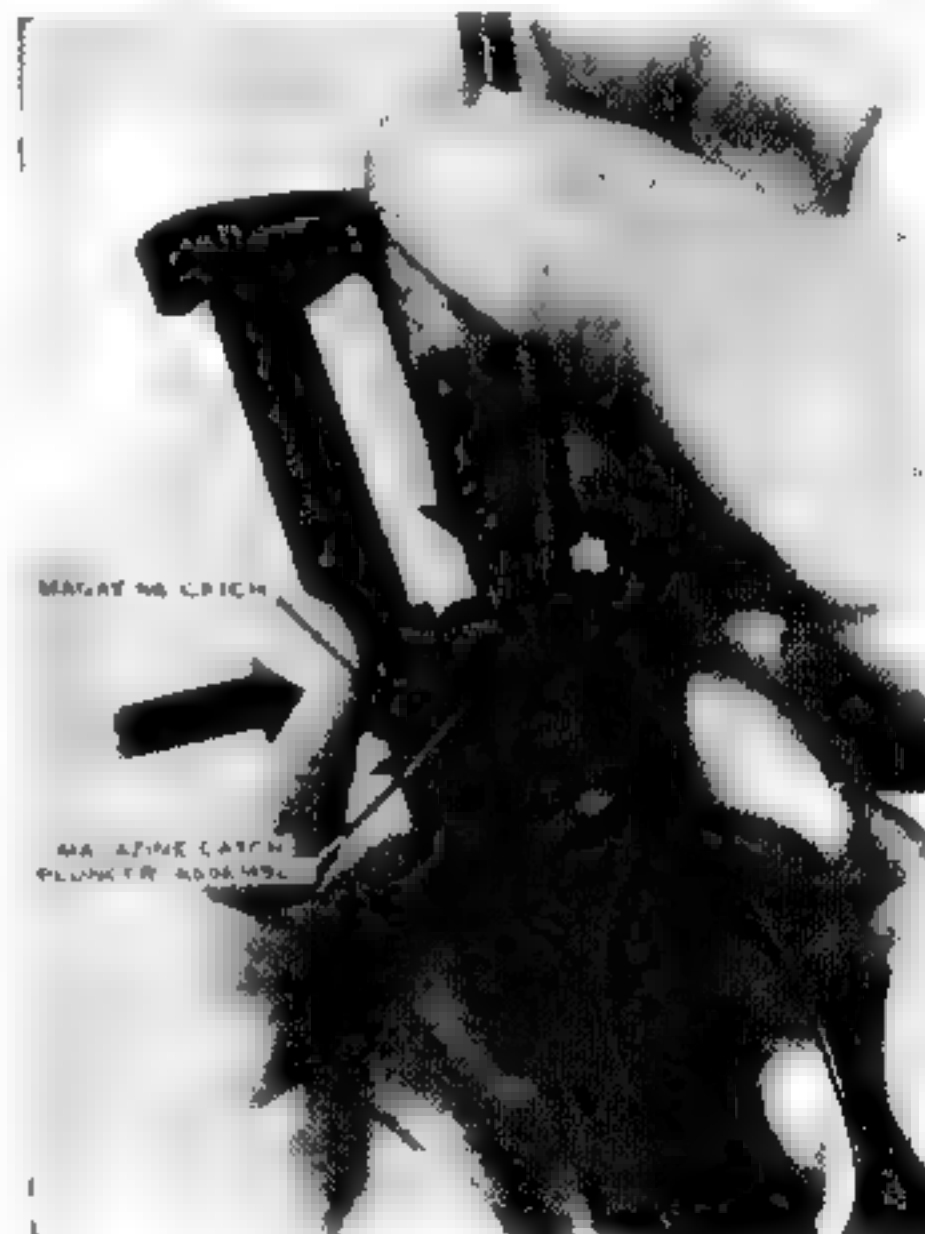

Figure 26. Replacing the magazine catch.
c. If you separated the magazine catch spring and plunger, assemble these parts now, and then place the assembly in its well in the trigger guard housing. The loose end of the magazine catch spring is inserted first, with the plunger facing outward. Replace the magazine catch into its guide groove in the forward face of the trigger housing with the fingerpiece facing to the rear. Move the magazine catch to the left against its plunger. Grasp the trigger housing as shown in Figure 26. Pull the magazine catch retainer plunger back into the aperture in the trigger housing and at the same time, push the magazine catch completely to the left. The magazine catch retainer plunger will click into position in its recess in the magazine catch, holding the magazine catch in its guide groove. Operate the safety and magazine catch a few times to test the assembly.